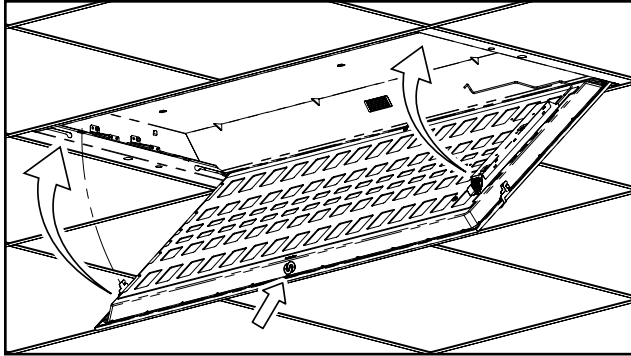

Figure 17.
17. With the lens of the LED Panel (C) facing away from you, grasp its left and right lower corners and begin lifting them toward the ceiling. Apply a gentle pushing force to ensure that the shoulder screws on the opposite corners remain at the far end of the Anchor Rail (A) key slots (Fig. 17).